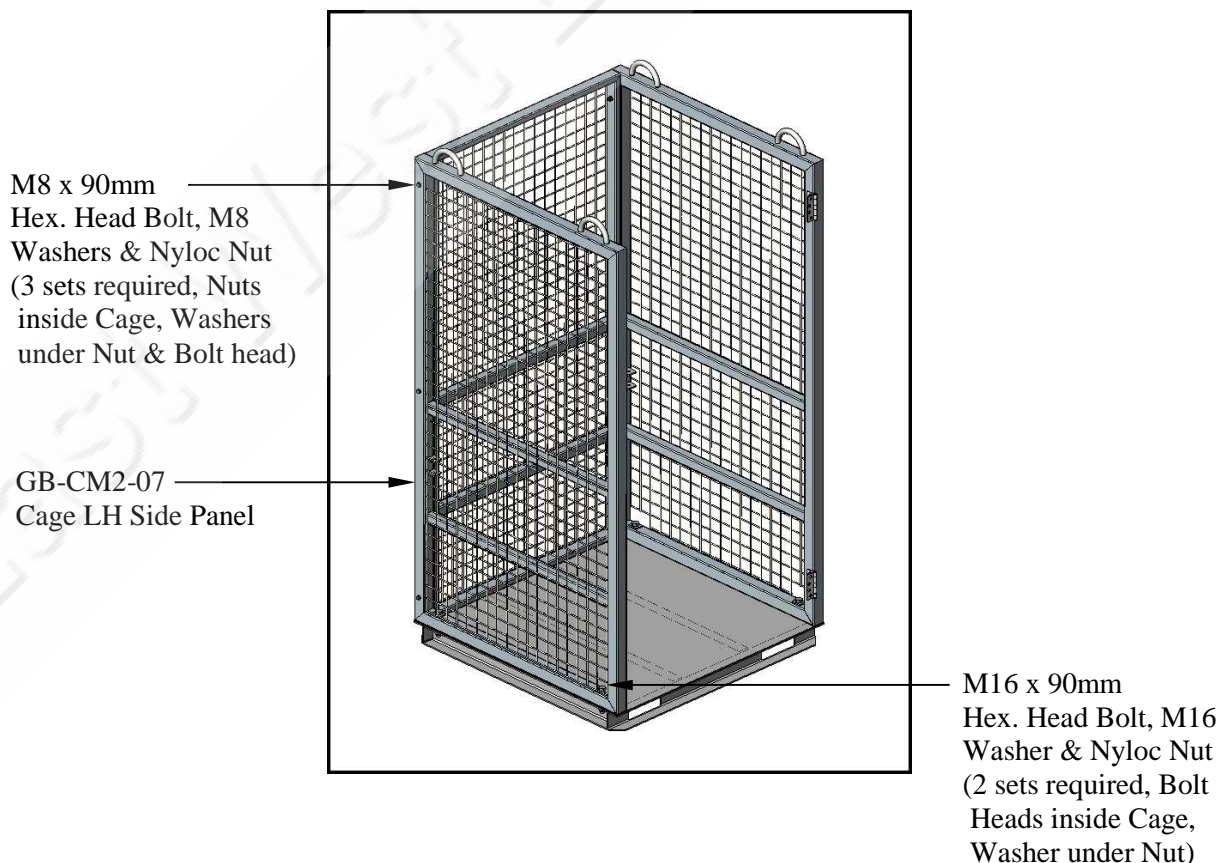

Figure 1.3
- E) Place the Cage LH Side Panel (Item 3) onto the Base orientated as shown in Figure 1.3 with the Mesh to the outside of the Cage, aligning the two (2) bottom holes with those in the Base. Loosely assemble to the Base & Cage Rear Panel using the same procedure used to assembly the Cage RH Side Panel Assembly.